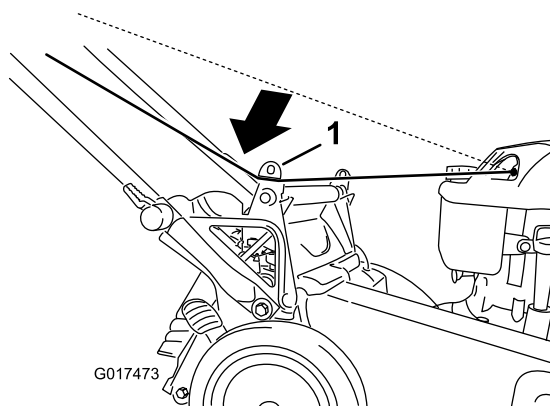

Figure 23
1. Route the starter rope around the lower rope guide (Figure 23).